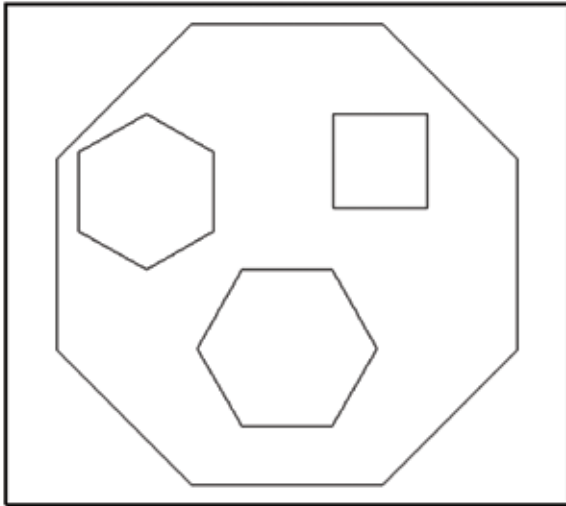

Figure 11.8
12. Let's rotate the polygon on the left (C) so it looks like the polygon on the drawing.
- See Figure 11.8.